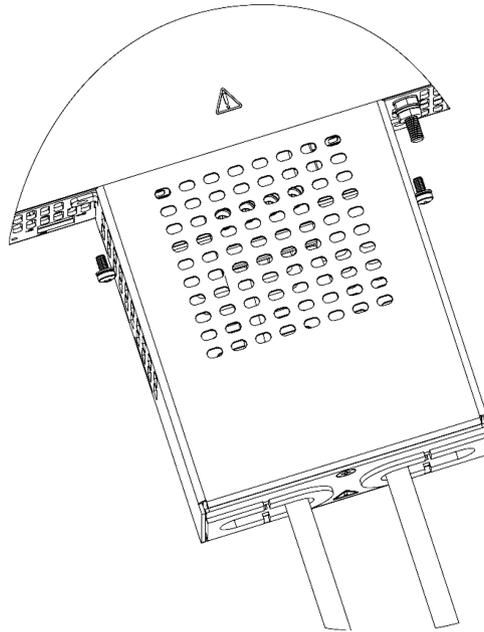

Figure 4-61: Output Connector Protection Assembly
6. Fix the output protection assembly to the rear panel of the power supply and tighten the screws as shown in Figure 4-61. Tightening torque: 4.7 - 5.7 Lb.-inch (0.53 - 0.64 Nm).